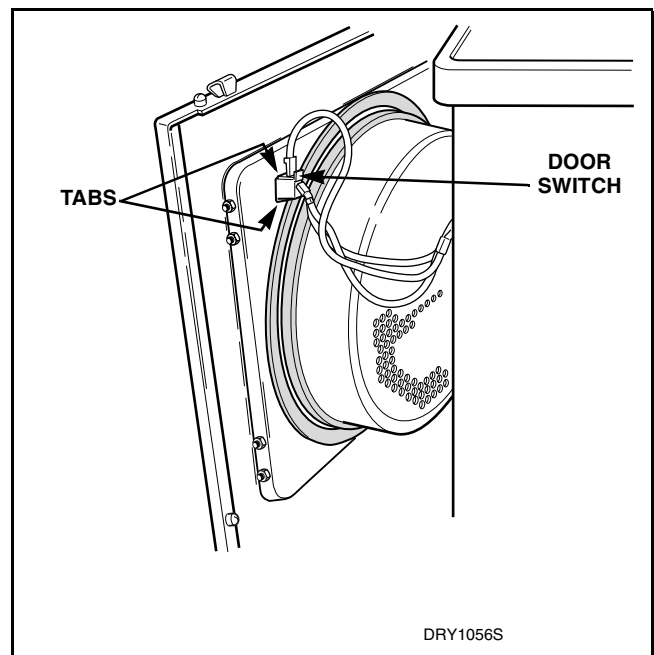

Figure 13
- Disconnect wires from door switch. Refer to *Figure 13*.
- Depress tabs on top and bottom of switch and push out of front panel. Refer to *Figure 13*.
1. Disconnect wires from door switch. Refer to *Figure 13*.
- c. Disconnect wires from door switch. Refer to *Figure 13*.
- d. Disconnect wires from door switch. Refer to *Figure 13*.
- (3) Disconnect wires from door switch. Refer to *Figure 13*.